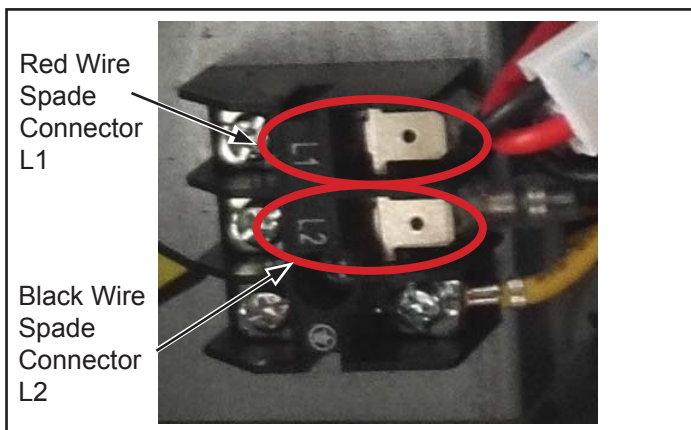

Figure 8. Connect Heat Kit to L1 & L2
- Connect the red wire spade terminal to L1 and connect the black wire spade terminal to L2 on the VVCA terminal block. See figures 8 and 9.